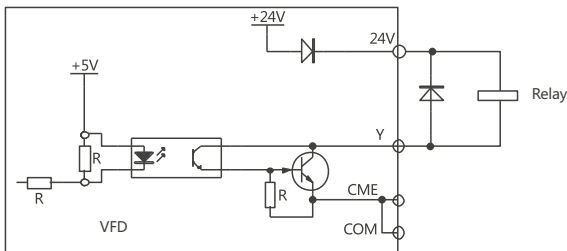

Figure 4.17 Multi-function output terminal wiring mode 1
(1) The multifunctional output terminal Y1 can use the +24V power supply inside the inverter, and the wiring method is shown in Figure 4.17.